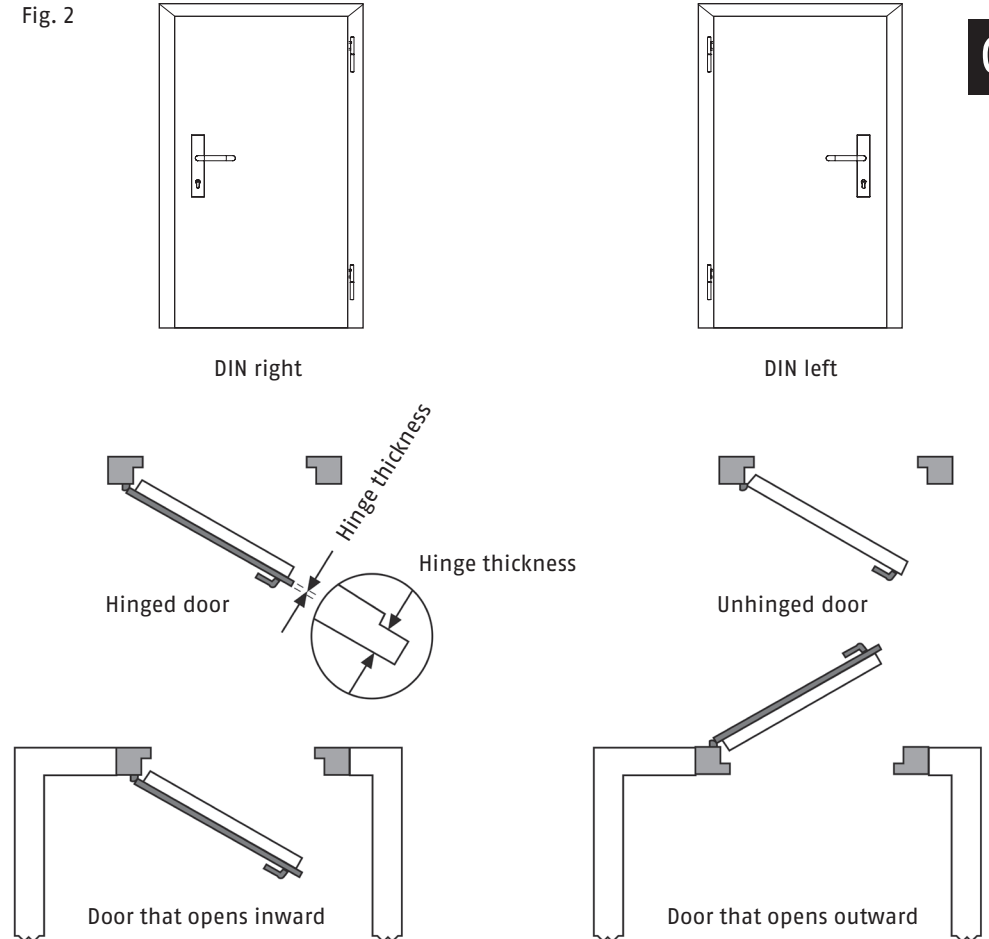

Fig. 3
We recommend fitting beneath the mounting (Fig. 3).
1. Set and mark the position of the lock body on the door panel (Fig. 3+4).